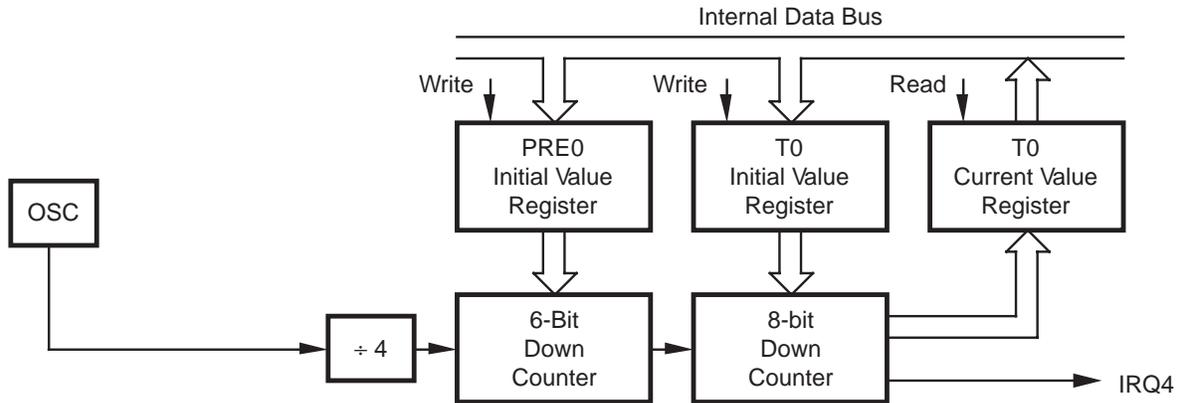

Figure 13. Counter/Timers Block Diagram
**Counter/Timers.** There is an 8-bit programmable counter/timer (T0) driven by its own 6-bit programmable prescaler (Figure 13).